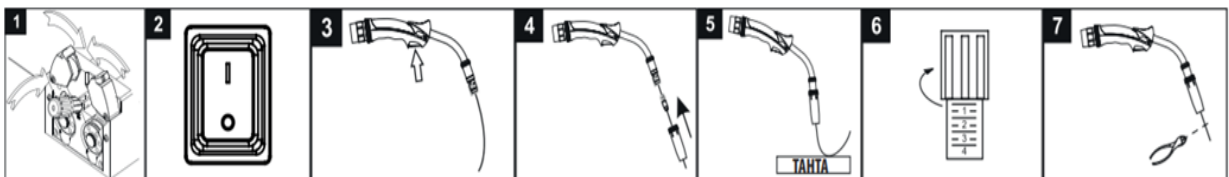

Figure-1 Directions to set the drive roll pressure
- **Improper pressure of the feeding rolls:** This issue is generally encountered when there is excessive pressure (B)(C) of the wire feeding rolls and results in the deformation and ruining of the circular shape of the wire. Excessive pressure of the wire feeding rolls also cause the material to be chipped (Figure-1) from the surface of the wire. The chips will get into the wire liner and will cause clogging and related feeding problems. The possible mistakes and the associated solutions when adjusting the pressure of the feeding rolls are explained in the figure set below.